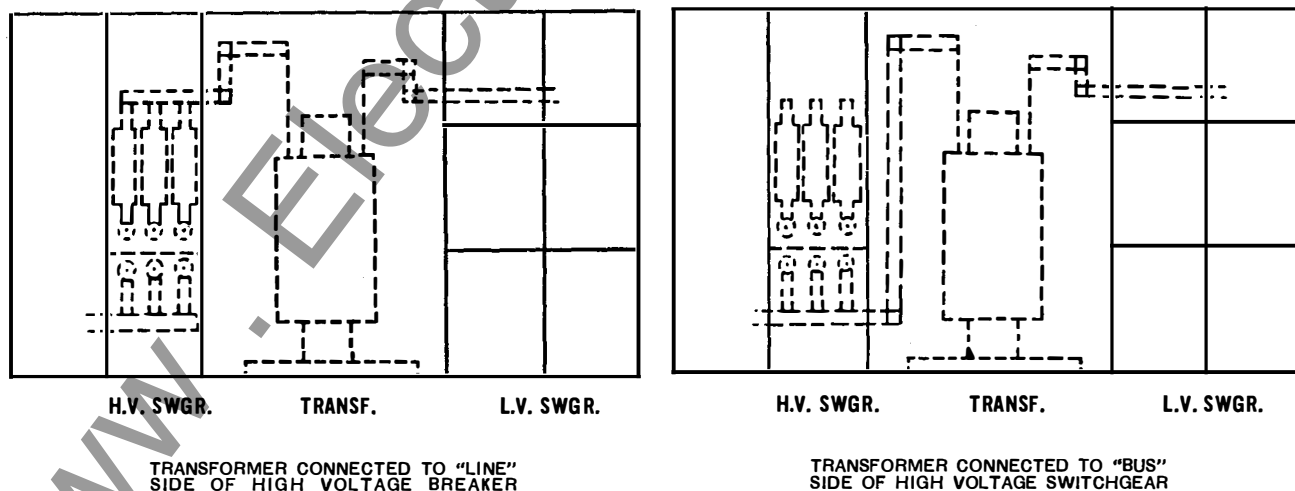
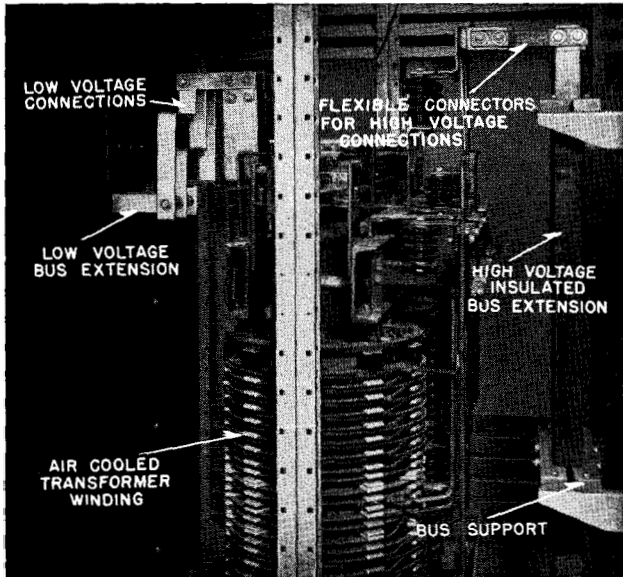

FIG. 22. Typical Sketches of Close-Coupled Indoor Unit Substations
FIG. 23. Connections to Transformer. (Taping has been omitted from the flexible connectors to illustrate method of installation.)
**Close-Coupled Type.** This type of connection is limited to installations involving indoor equipment comprising a dry type power transformer and indoor switchgear assembly. Typical front view sketches of two types of close-coupled assemblies are shown in Figure 22 and a photograph of a typical transformer connection is shown in Figure 23. The specific details of the power connections for any particular combination of transformer and switchgear are shown on the assembly drawings supplied with the equipment.